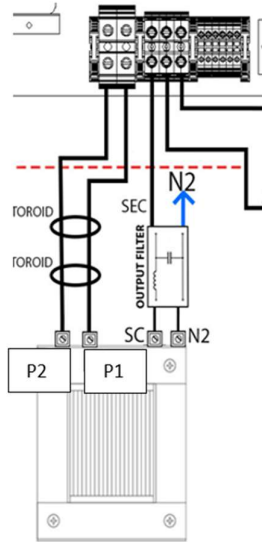

Figure 13. Reversing P1 & P2 cable to get true synchronization
6. If no problem, and you see load on inverter on TFT screen, please check inverter output voltage and frequency from monitor menu of TFT. Again voltage & frequency is ok, please get a hand multimeter and measure synchron voltage between inverter out (SEC) and bypass (SB). It has to be lower than 20Vac. If you see voltage over than 400Vac, it means inverter is asynchron to bypass.
7. If you have asynchron voltage (>20Vac or >400Vac) between SEC & SB points. Turn off input mcb, wait all energy will be discharged on DC BUS capacitors (you can check multimeter). After all energy in the product discharged, please reverse P1&P2 cable connections from transformer ports like as seen Figure 13 below. And return to first step of this procedure, again measure between SEC & SB points, this time you will see (<20Vac) synchron voltages between inverter out & bypass voltage.